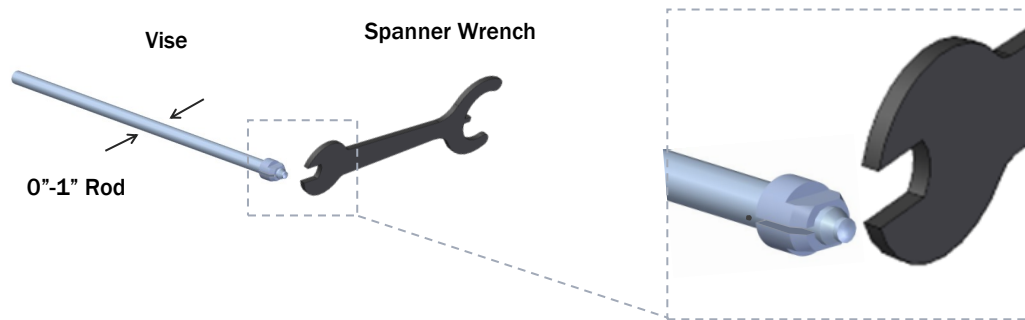
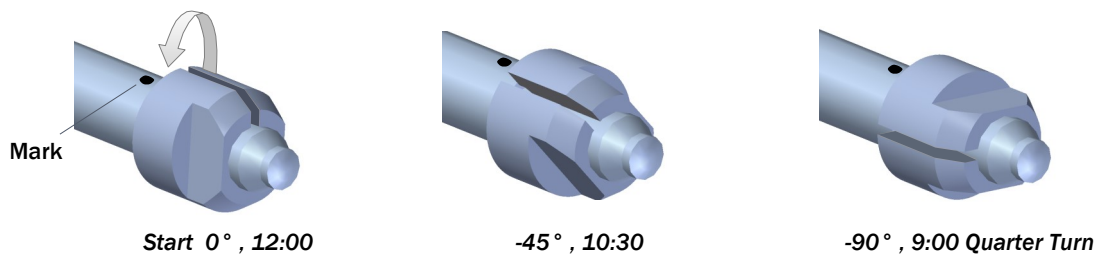

Fig.16A
Fig.16B
8. The Process; Fig.16A, use the spanner wrench to make small adjustments, and then check the rod in the tool. In the example Fig.16B, the nut is rotated and an angle or clock time is used as a reference to help dial it in. When you re-check the rod note the difference from your last measurement and compare it to how much the nut was rotated. Hopefully, overtime you will be able to see a correlation between the rotation of the nut to the change in the rod measurement.